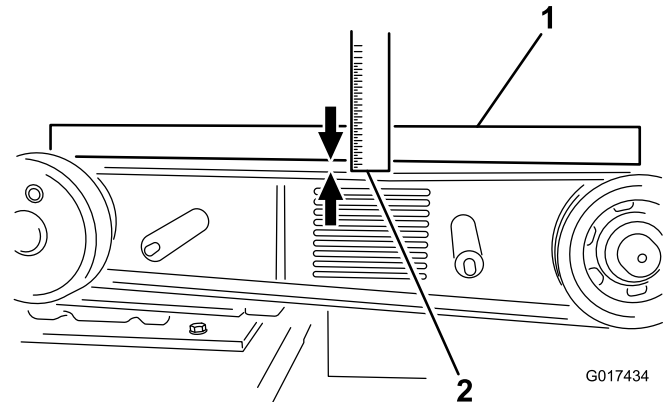

Figure 19
6. Lay a straightedge across clutch and flywheel pulleys, tighten belt-tension bolt so there is 1 cm (0.40 inch) of flex in the belt when pushing down with 6.8 kg (15 lb) force, at mid-span (when re-tensioning a belt in use) or with 8 kg (18 lb) force when installing a new belt (Figure 19).